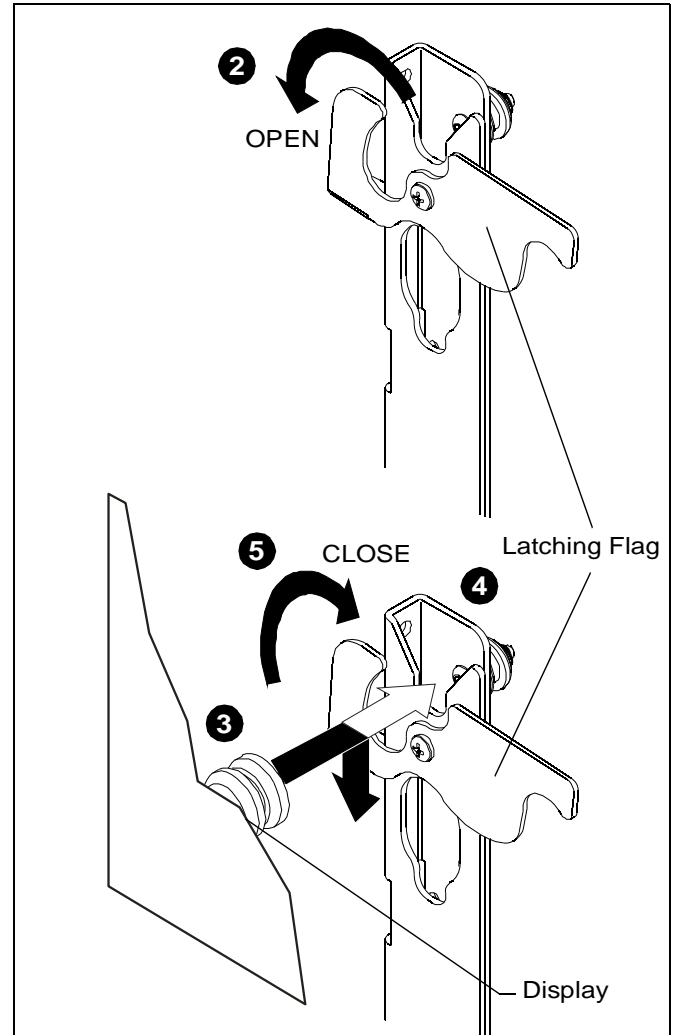

Figure 10
2. Verify latching flag is in the OPEN position. (See Figure 10)
5. Move latching flag to CLOSED position to secure display on accessory. (See Figure 10)